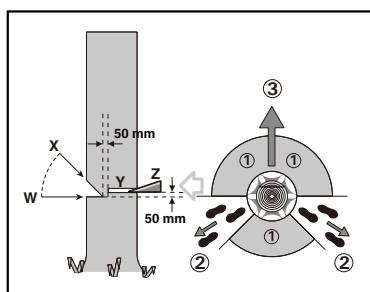

Figure 1
An escape path should be planned and cleared as necessary before cuts are started. The escape path should extend back and diagonally to the rear of the expected line of fall as illustrated in Figure 1.
Make the notch 1/3 the diameter of the tree, perpendicular to the direction of fall as illustrated in Figure 1. Make the lower horizontal notching cut (W) first. This will help to avoid pinching either the saw chain or the guide bar when the second notch (X) is being made.
Make the felling back cut (Y) at least 2" (5 cm) higher than the horizontal notching cut as illustrated in Figure 1. Keep the felling back cut parallel to the horizontal notching cut. Make the felling back cut so enough wood is left to act as a hinge. The hinge wood keeps the tree from twisting and falling in the wrong direction. Do not cut through the hinge.
When the tree begins to fall remove the chainsaw from the cut, stop the motor, put the chainsaw down, then use the retreat path planned (②). Be alert for overhead limbs falling and watch your footing. (See Figure 1.)